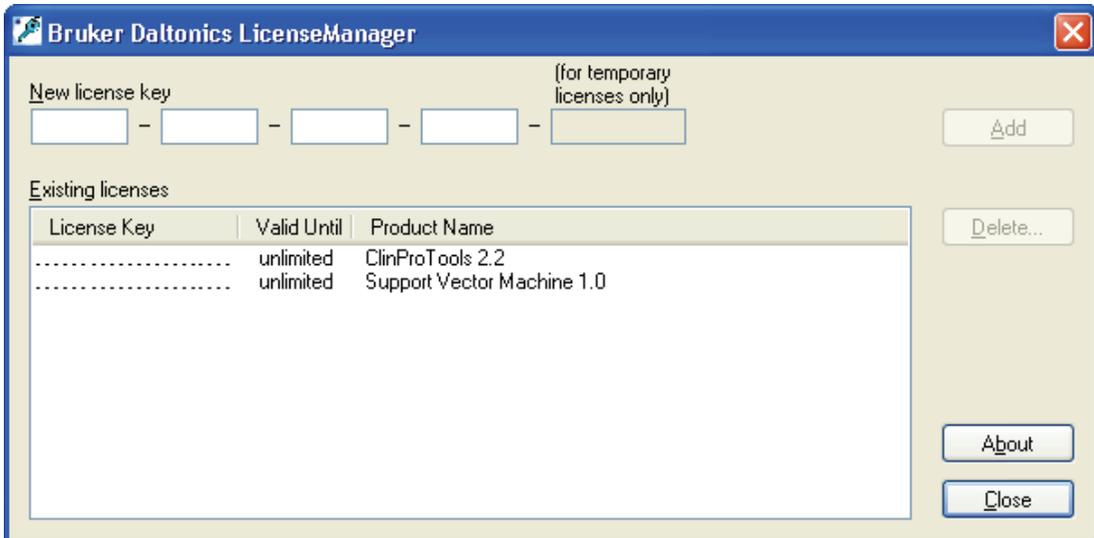

Figure 2-1 Bruker Daltonics LicenseManager dialog with the ClinProTools 2.2 and Support Vector Machine 1.0 licenses present
7. Click **Add**. The button is enabled after entering a correct license key. If the key is valid the license is added to **Existing licenses** (Figure 2-1).